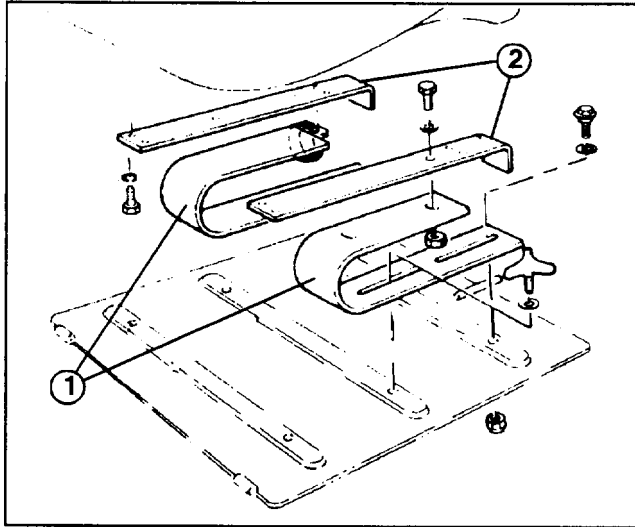

Figure 2
1. Attach "U" springs to seat mounting brackets using bolts and locknuts as shown in figure 2.
2. Secure seat mount assemblies to bottom of seat with (4) capscrews and lockwashers (Fig. 2).
5. Mount seat and spring assembly to rear holes in seat mounting plate with two shoulder bolts, small I.D. flat washers and locknuts (Fig. 2 & 5).
3. Shoulder bolt with washer and locknut (2)
4. Adjustment handle (2)
6. Secure front slot of seat springs to traction unit front mounting holes with adjustment handles and flatwashers (Fig. 2 & 5).
- Install manual tube into R-clamps, insert manual into tube and thread cap into tube (Fig. 2). Tighten capscrews.